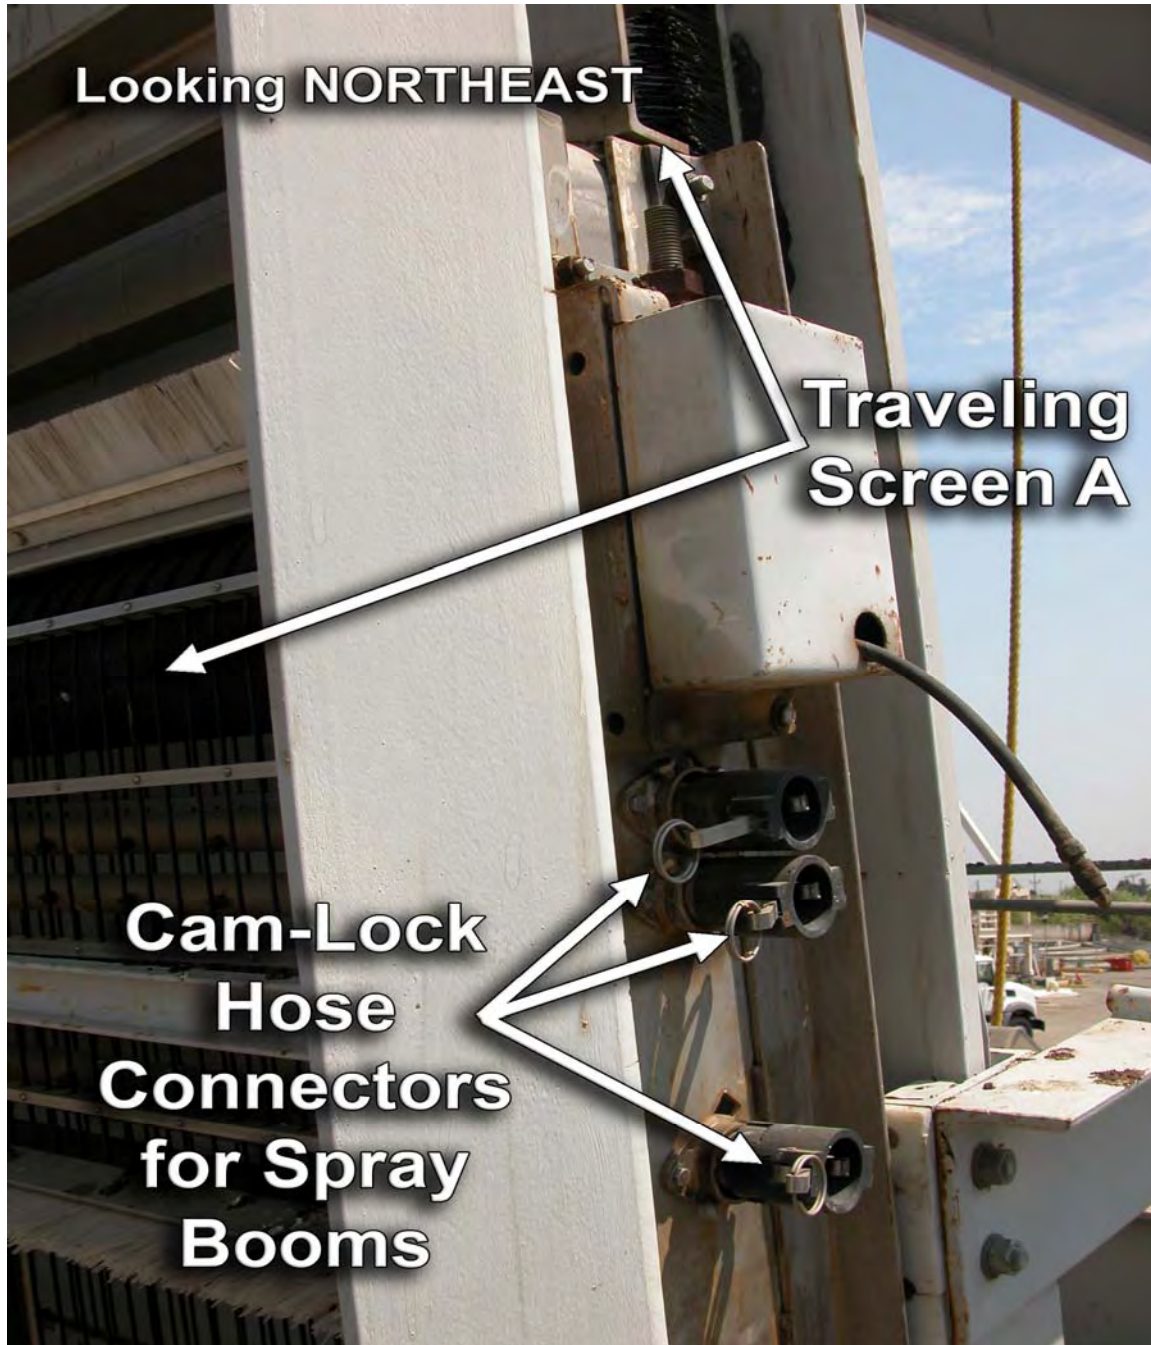

FIGURE 17.—Cam-lock connectors for attaching Spray Boom Hoses D6 to the Traveling Screen.
After flushing the three red Spray Boom Hoses D6, connect each hose to the three Spray Booms using the cam-lock connectors on the Traveling Screen (Figure 17). The levers on the cam-lock connectors must be in the full DOWN position and parallel to the boom hoses.
Guide Plate is too high or low	<ol style="list-style-type: none"> (1) Go to Traveling Screen Control Panel P2 (Figure 17) and locate the 2-ton Hoist Control buttons. (2) Rotate the Hand/Auto Switch dial on the 2-ton Hoist Controls to HAND and adjust manually so that the guide plate is within 6-12 inches of the water, and then turn Hand/Auto Switch dial to AUTO. If the Guide Plate does not adjust automatically, switch back to HAND. Readjust every half hour depending on the changing water level. (3) Repair or replace the automatic height feature.